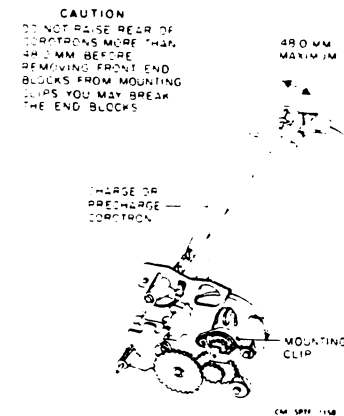

Figure 3. Reinstalling the Scorotron
- PRESS ON THE END OF THE SCOROTRON WHEN INSTALLING THE SCOROTRON INTO THE DRUM MODULE (FIGURE 3).